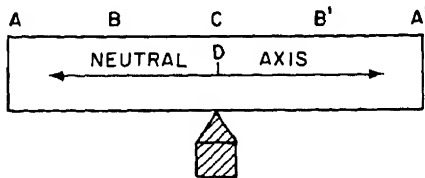

Figure 1A.-I-beam supported in center. 462
- 1-42. If equally heavy loads are placed at points A and A' of figure 1A, what part of the I-beam, if any, is not subjected to stress?